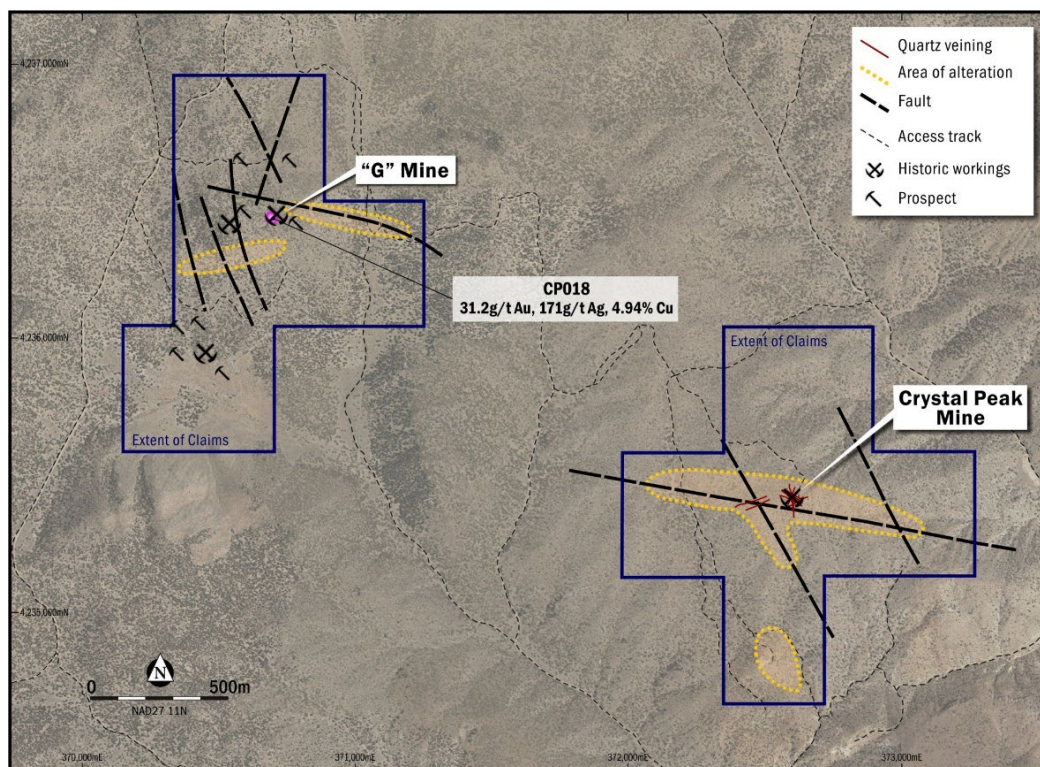

Figure 2: Plan view of the newly staked Crystal Peak and G Mine showing structure, alteration and main prospect areas and G Mine rock chips locations.
- Initial sampling returns 1,880g/t Ag from a quartz stockwork zone at Crystal Peak and 31.2g/t Au from G Mine area associated with copper up to 4.94% (see figure 2).
Alteration about the stockwork zone and along through-going structures is characterised as proximal quartz-sericite-pyrite within a larger argillic alteration halo (see figure 2). Typically, the quartz stockwork is made up of continuous to semi-continuous linear veins up to 10cm wide at various attitudes to each other (see photo 1). While there are some prominent low angle veins many of the veins are sub-vertical, suggesting good potential at depth. Within the stockwork, vein density ranges from 3 veins per meter up to 15 veins per meter where veins account for up to 85% of the rock by volume. Within the larger stockwork area some consistently more sheeted quartz vein zones are observed.